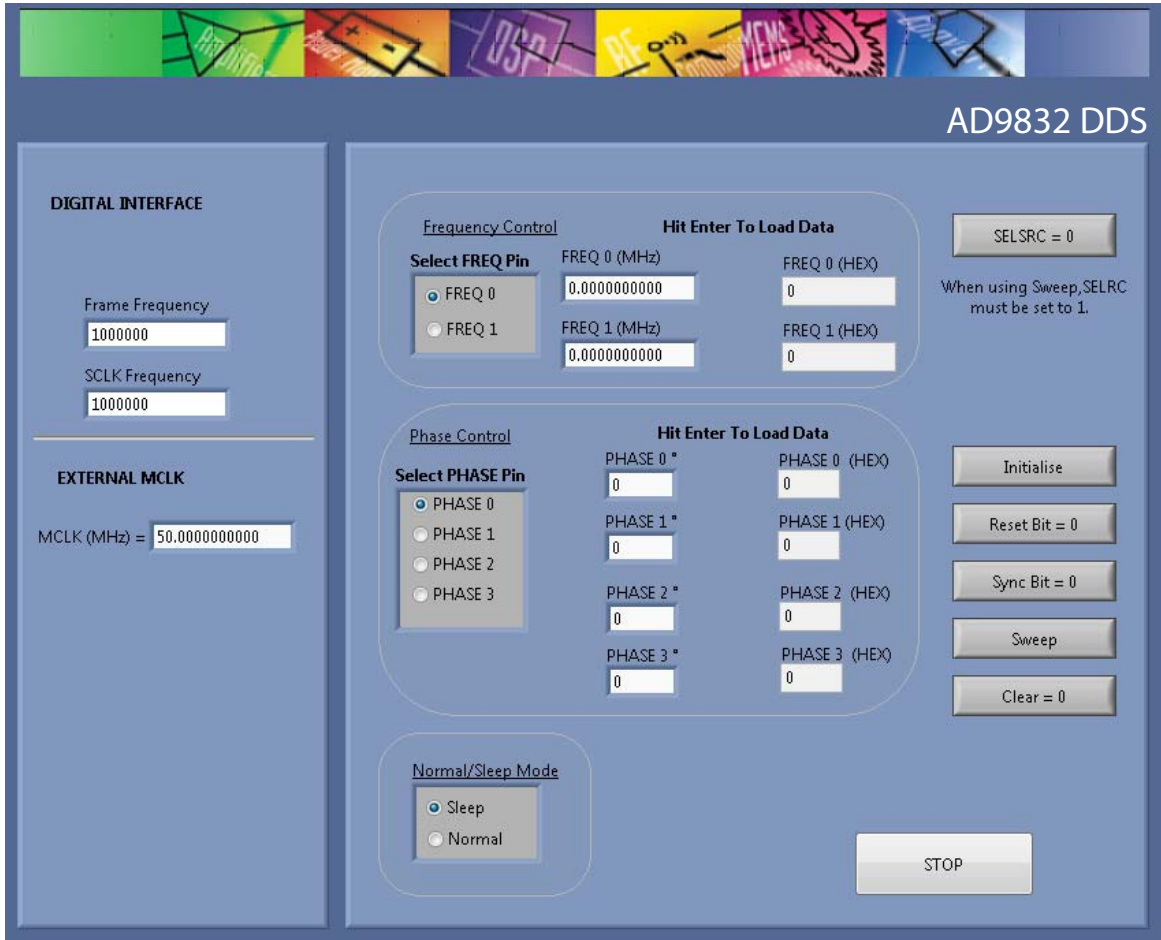

Figure 4. AD9832 Evaluation Board Software
3. Ensure that all links are in their correct locations (see Table 1). The main window of the AD9832 evaluation software then opens, as shown in Figure 4.
The first step in setting up the AD9832 to take measurements is to set the DIGITAL INTERFACE in the software window (see Figure 4).